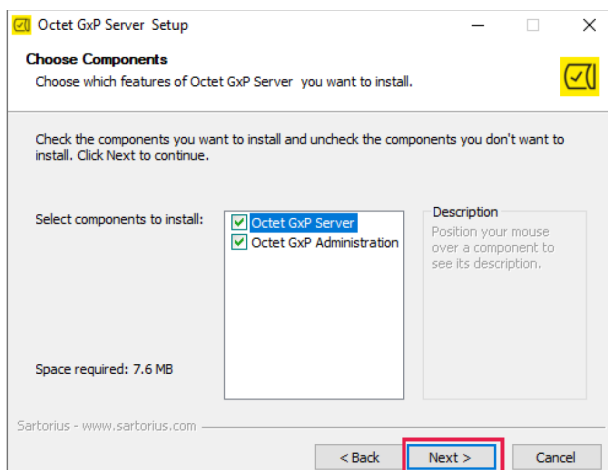

Figure B-4: Choose Components dialog box
5. Click **Next** to display the Choose Components dialog box (Figure B-4). Install both options on the computer selected to host the Octet® GxP Server software. You can also install the Octet® GxP Administration component on other client computers such as the Octet® controller computer. In general, only install the Octet® GxP Server component on one computer in your network.